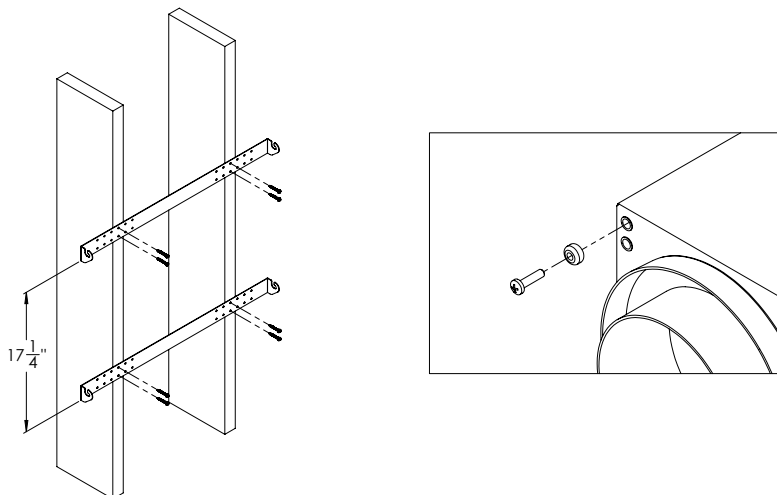

FIGURE 2.1.4 VERTICAL INSTALLATION ON A WALL OR PANEL
- Using four of the factory-supplied 1/4-20 machine screws, place a grommet on each screw and install the screws in the rivet nuts as shown in Figure 2.1.4. Apply a drop of thread-lock on each screw and leave the screws loose, to help in aligning and installing the unit on the two brackets.